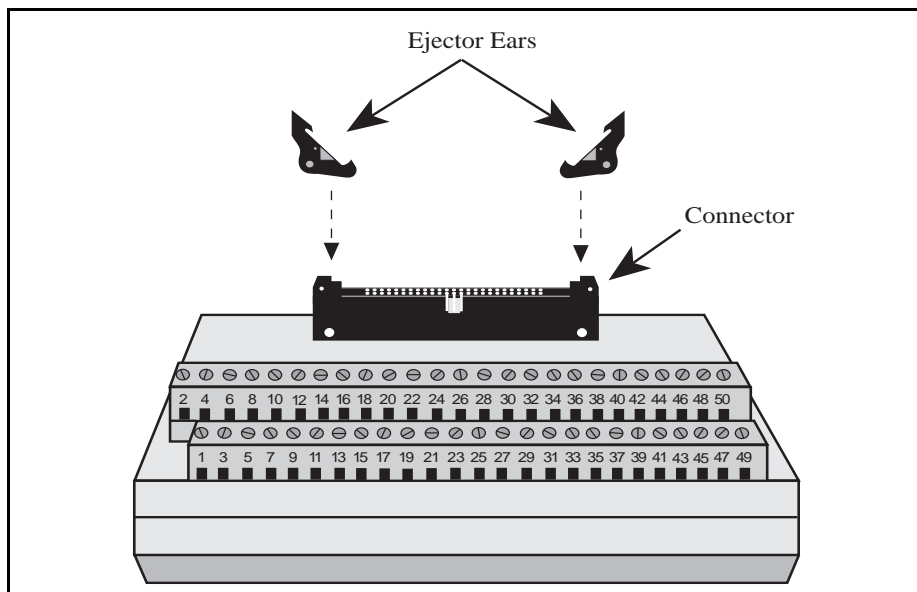

Figure 2. Inserting the Ejector Ears into the Connector Block
3. Insert one pair of the ejector ears into each connector block as shown in Figure 2.